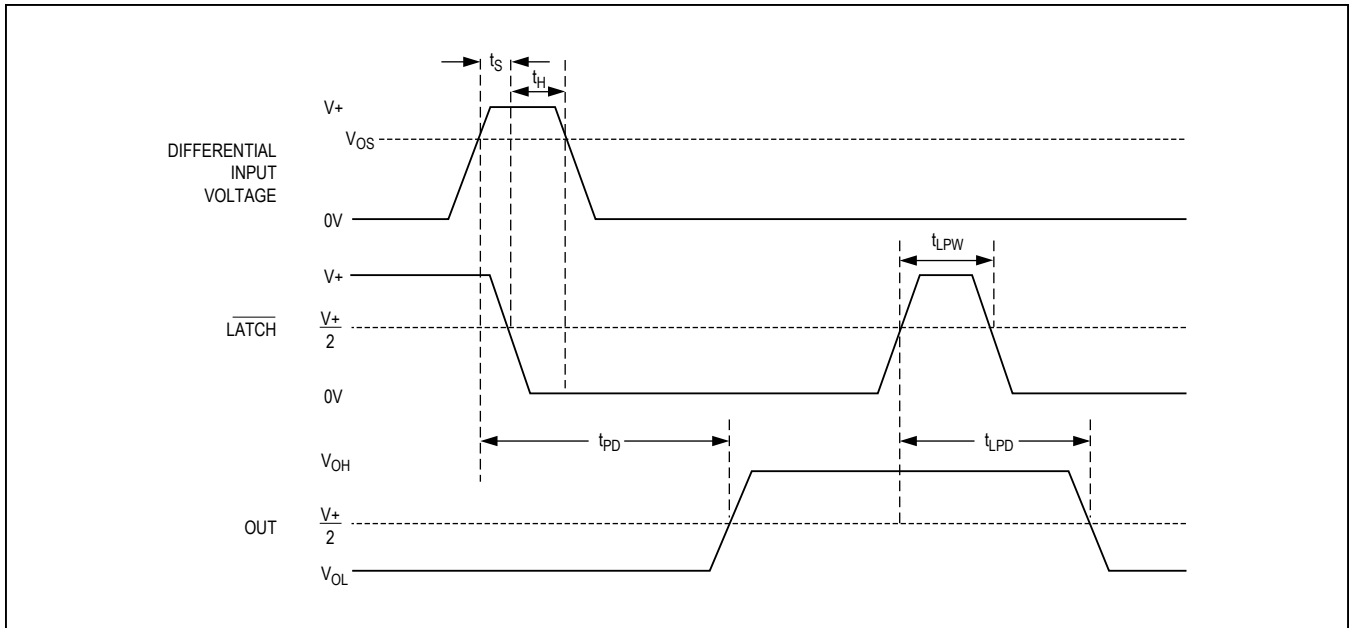

Figure 2. MAX941 Timing Diagram with Latch Operator
- Note 8:** Parameter is guaranteed by design and specified with V_{OD} = 5mV and C_{LOAD} = 15pF in parallel with 400μA of sink or source current. V_{OS} is added to the overdrive voltage for low values of overdrive (see Figure 2).
- Note 12:** Applies to the MAX941 only. Comparator is active with LATCH pin driven high and is latched with LATCH pin driven low (see Figure 2).
The MAX941 includes an internal latch that allows storage of comparison results. The $\overline{\text{LATCH}}$ pin has a high input impedance. If $\overline{\text{LATCH}}$ is high, the latch is transparent (i.e., the comparator operates as though the latch is not present). The comparator's output state is stored when $\overline{\text{LATCH}}$ is pulled low. All timing constraints must be met when using the latch function (Figure 2).